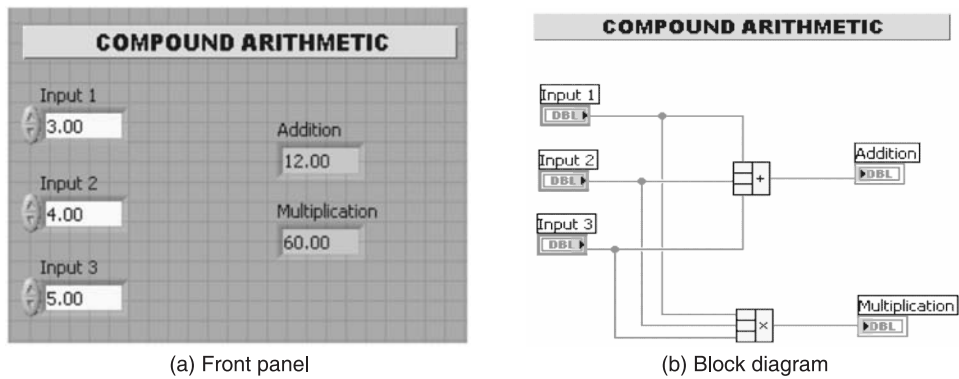

Figure P2.3
**Solution** The front panel has three numeric inputs while the block diagram contains compound arithmetic functions as shown in Figures P2.3(a) and P2.3(b).